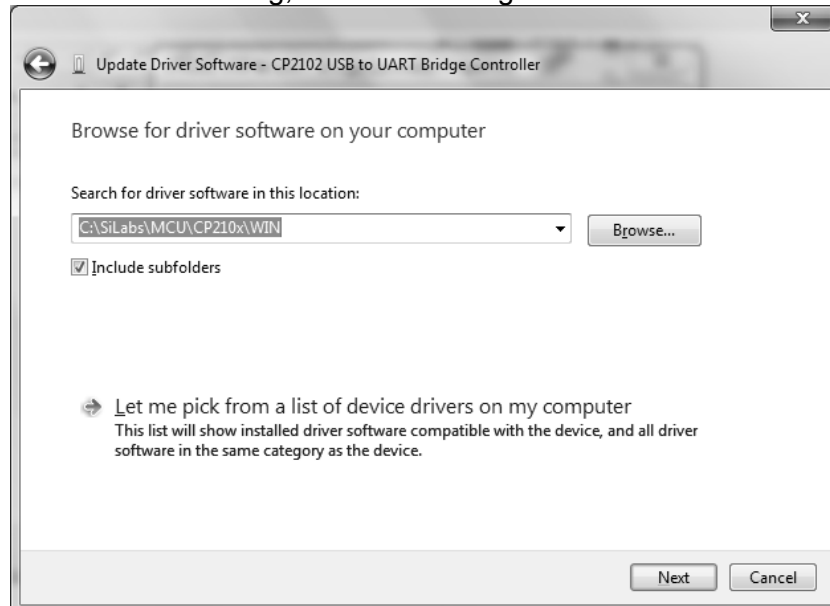

Fig. 72 Update Driver Software
(22) The screen shown in Fig.72 appears. Select "**Search for driver software in this location:**" and input "**C: \SiLabs\MCU\CP210x\WIN** " in the blank directly or click **Browse** to select the folder. Also Check the box next to "**Include subfolders**". If you have installed the driver in a folder different from default setting, select the changed folder.